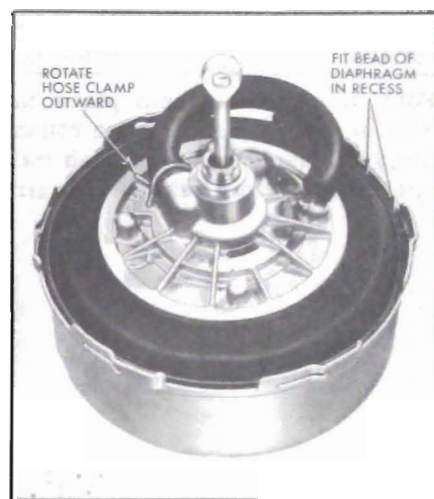

Figure 9-27—Installing Power Piston Assembly in Front Housing
14. If hose was removed, install new hose fully on boss so that it is parallel to power piston. Install hose clamp using Pliers J-5284. Rotate hose clamp outward so that it nearly contacts power piston; otherwise it will strike the rear housing and prevent full return of power piston assembly. See Figure 9-27.
16. Rotate power piston assembly so that unattached end of hose is in line with master cylinder filler cap. Press power piston down and hold in position while fitting bead of diaphragm into recess in rim of front housing. See Figure 9-27.